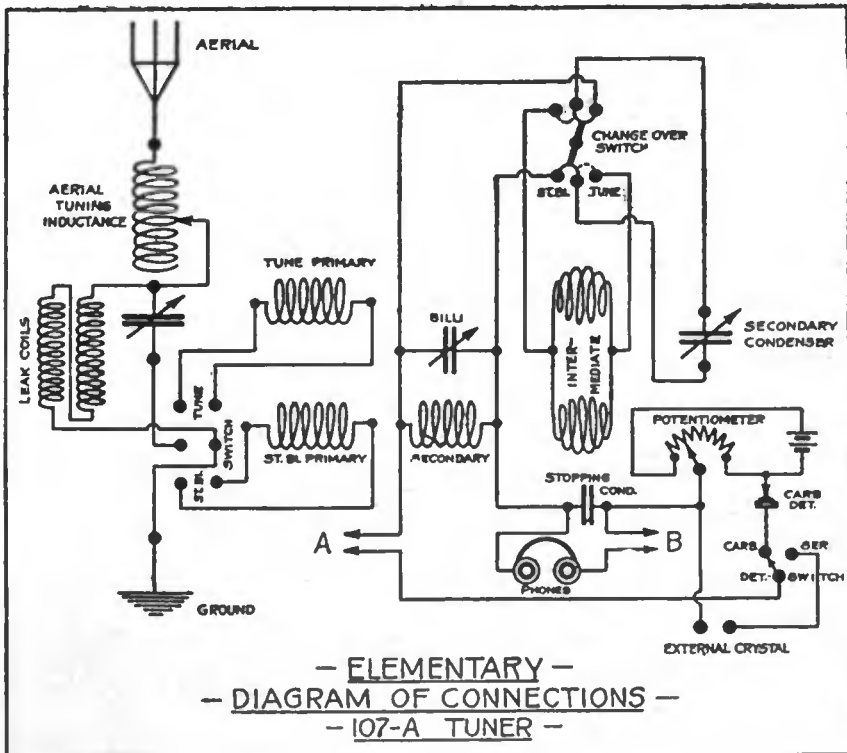

Figure 137.
- (1) Figure 137. To indicate the complete connections of the type 107a receiving tuner of the American Marconi Company.
In figure 137 the antenna circuit comprises the aerial tuning inductance, the short wave variable condenser, two primary coils—one marked "tune primary," the other "stdbi primary"—and the inductive leak coils shunted around the primary circuit and the short wave condenser.
For protection from the local transmitter, the secondary circuits are opened at points A and B (figure 137) during transmission.
With this tuner three possible circuits may be used. There is a "stdbi" adjustment for (1) long and (2) short waves, and a (3) "tune" adjustment for short waves. Connections from one to the other are made by means of the switch (figure 137) marked "change-over switch." When thrown to the right (on the actual apparatus) the primary, intermediate, and secondary circuits are in use, but when thrown to the left, the antenna coil marked "stdbi primary" is coupled directly to the secondary coil. A fixed coupling is employed. If, with the "stdbi" adjustment the condenser change-over switch is thrown to the position "stdbi," the intermediate condenser is connected in shunt to the billi-condenser across the secondary winding thereby permitting increased wave length adjustments.
For tuning to waves up to approximately 1000 meters with "stdbi" connection, the billi-condenser only is employed. For longer wave lengths, the six-point double throw switch mounted on the top of the tuner (marked "change-over switch" in figure 137)